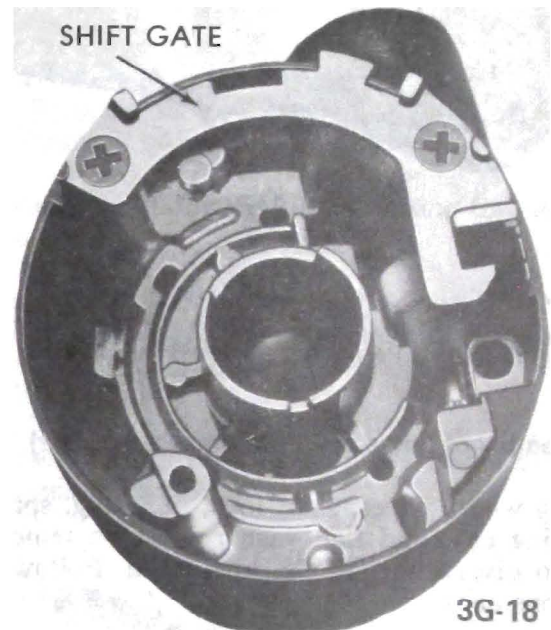

Figure 3G-38 Removing Shift Gate
20. Remove the sector through the lock cylinder hole by pushing firmly on the block tooth of the sector with a blunt punch. See Figure 3G-39.